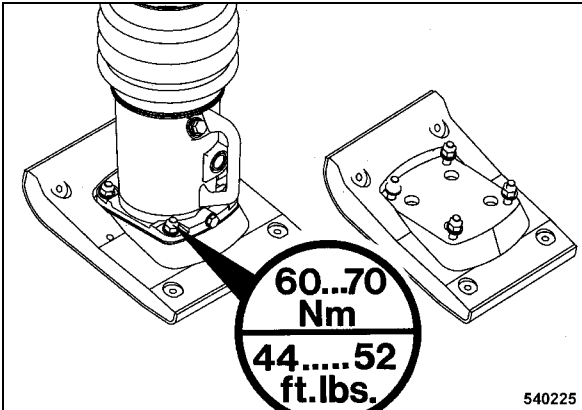

Fig. 26
- After changing the tamper foot plate (Fig. 26) tighten the 4 fastening screws with a tightening torque of 60 to 70 Nm (44 to 52 ft.lbs).